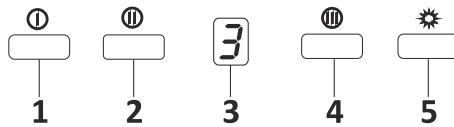

Fig. 15: 3 Spd Dig Button
1. ➔ Press this button to turn on the product. Product will also run on 1st speed level when this button is pressed. Fig. 15
2. ➔ Product will run on 2nd speed level when this button is pressed. Fig. 15
3. ➔ Dig display You can follow which speed the product is currently working on this display. Fig. 15
4. ➔ Product will run on 3rd speed level when this button is pressed. Fig. 15
5. ➔ Press this button to turn on and off the lamp. Fig. 15
6. ➔ Pressing and holding any of the motor operation buttons for more than 2 seconds will initiate a timer function of 15 minutes. A signal will be Displayed once the timer starts and the motor will stop automatically after 15 minutes. Fig. 15